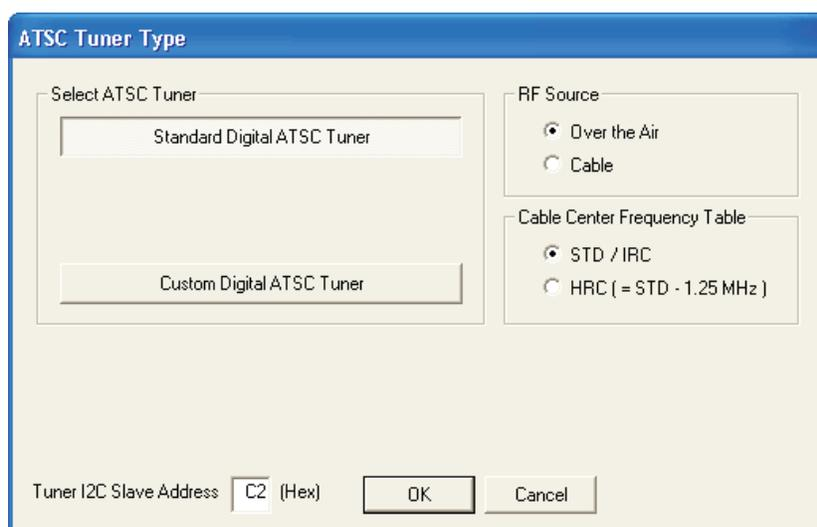

Figure 6. ATSC Tuner Type
8. Program the tuner by clicking Tools→TV Tuner Control→ ATSC. The Tuner Type window, as shown in Figure 6, allows the user to select tuner and source settings. Select the Standard Digital ATSC Tuner button and click on OK to use the default tuner shipped with the TVP9900EVM.